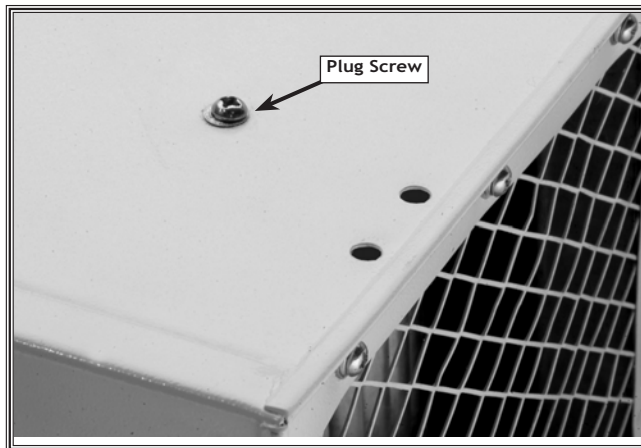

Figure 7. Plug screw.
2. Remove the plug screw. Retain the screws because if you remove the eye bolts for the flush mounting configuration, you must reinstall these screws to seal the air filter unit. See **Figure 7**.